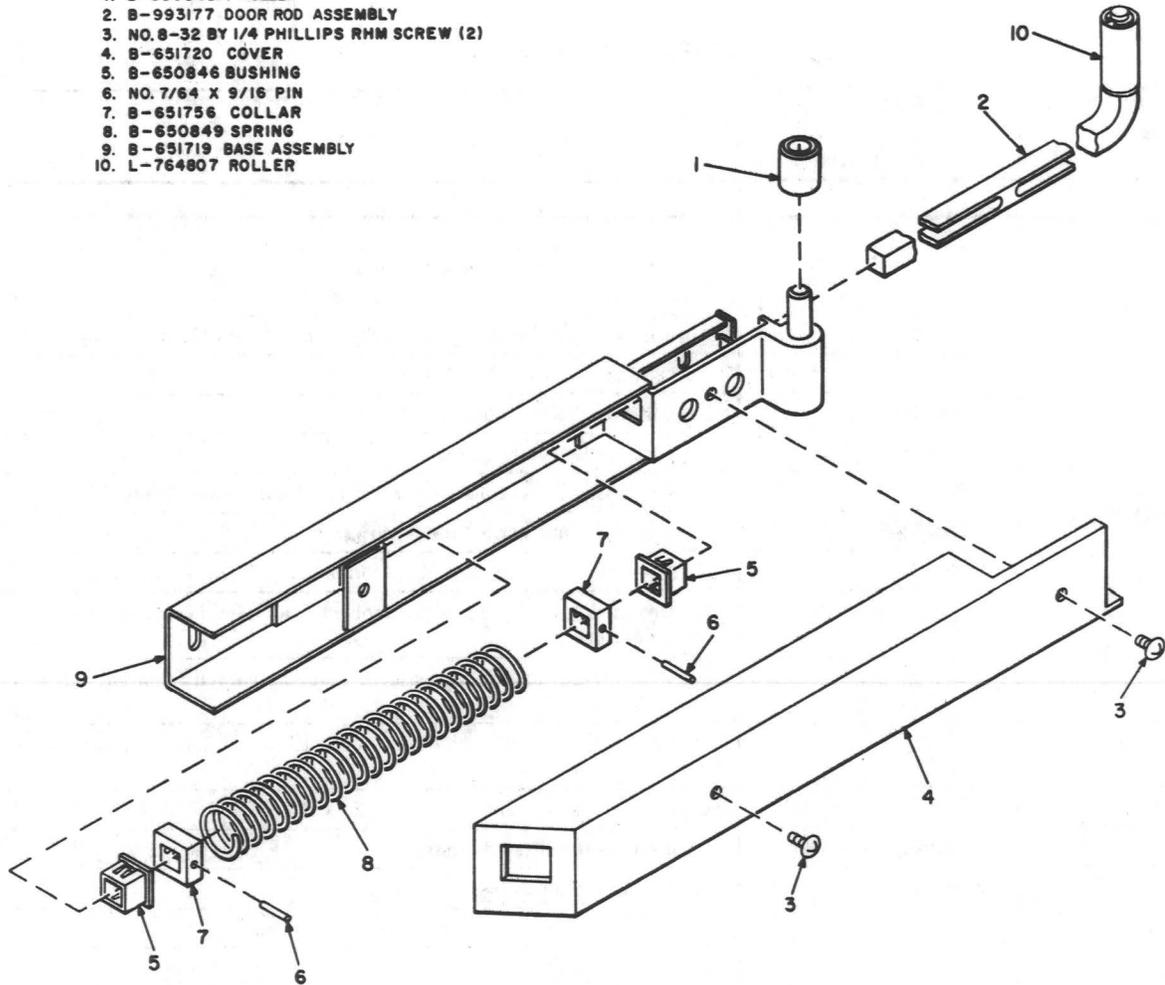

Fig. 28—B-993172-2 Door Guide Assembly
4.33 The KS-19580 booth will have either a B-651721-2 short-roller door guide assembly (Fig. 27) or a B-993172-2 long-roller door guide assembly (Fig. 28).